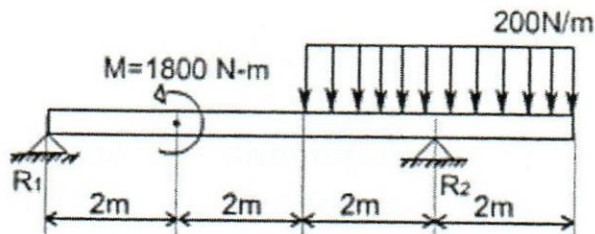

Figure-1
Q. 02 An overhanging beam of length 8m carrying uniformly distributed load of 200N/m over a 4m length from extreme right end and 1800 Nm anti-clockwise couple at 2m from left end as shown in **Figure-1**. Draw the shear force and bending moment diagrams for the beam.